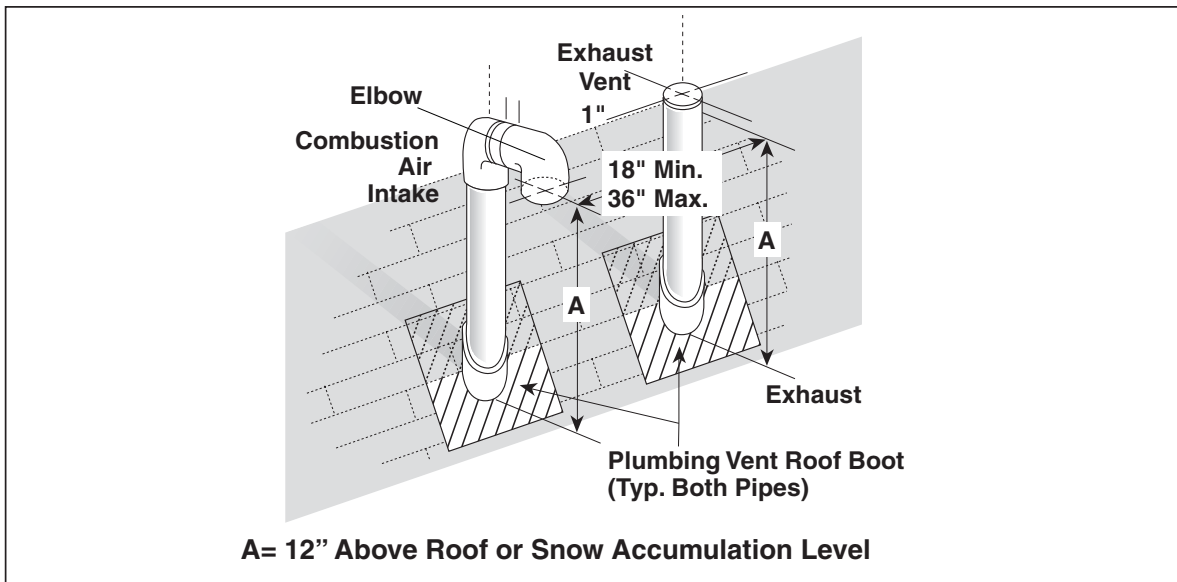

Figure 23. Vertical Vent Termination
Figure 23 shows the proper installation and clearances for vertical vent termination. The roof penetration must be properly flashed and waterproofed with a plumbing roof boot or equivalent flashing. Termination spacing requirements from the roof and from each other must be per Figure 23.
- The termination clearances shown in Figure 23 are maintained.